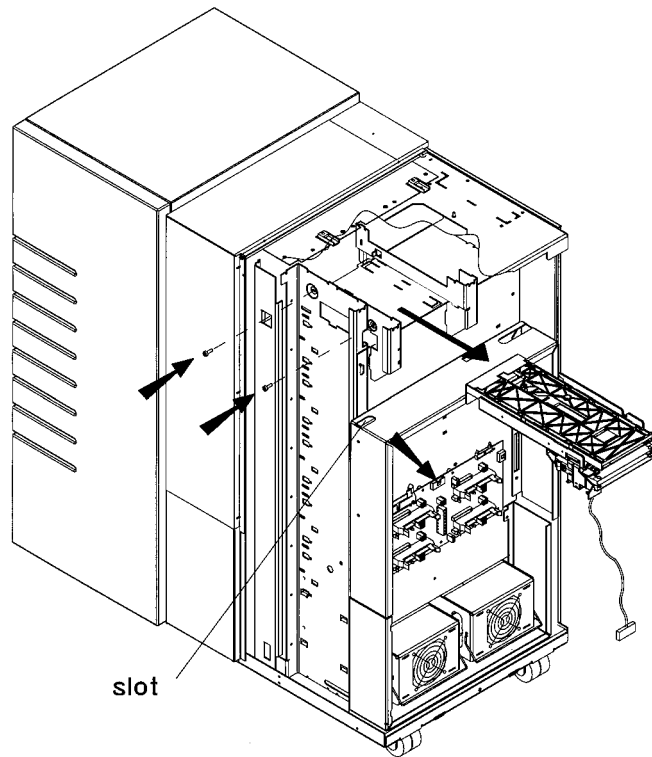

Figure 17: Mailslot Assembly Mounting Screws
2. Remove the two T-15 mailslot mounting screws from the upper left side of the chassis (see arrows on the left side of Figure 17).
Thread the mailslot cable through the slot as you pull the mailslot out of the chassis (see Figure 17).